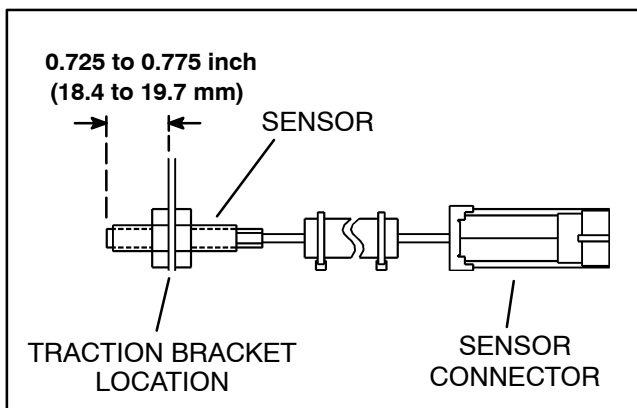

Figure 19
4. The distance between the sensing end of each sensor and the traction bracket should be from 0.725 to 0.775 inch (18.4 to 19.7 mm) (Fig. 19).
5. To adjust or install actuator, place functional control lever in the NEUTRAL position. Position actuator in lever until the NEUTRAL sensor just closes and then rotate actuator two (2) complete turns closer to the NEUTRAL sensor.